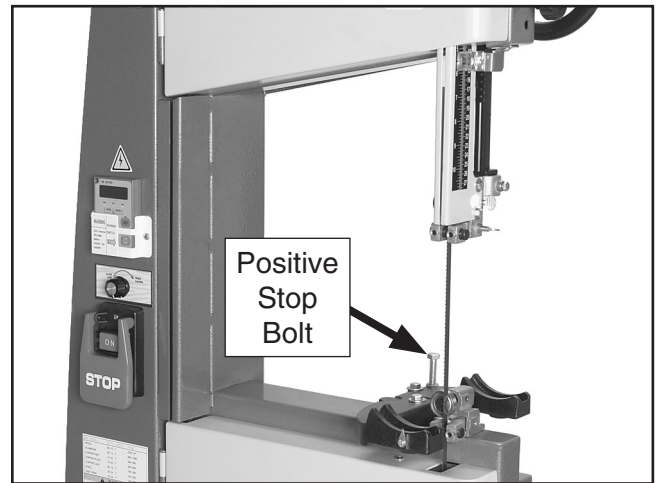

Figure 7. Positive stop bolt installed.
6. Thread the positive stop bolt into the trunnion base so it is installed as shown in **Figure 7**.